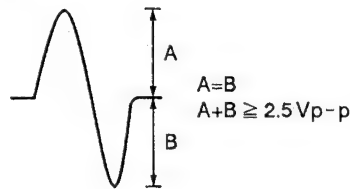

Figure 8
3. While watching the oscilloscope screen, press the PGM (PROGRAM) key and observe the waveform in Figure 8 for a moment. Verify that the amplitude is at least 2.5 Vp-p and that the positive and negative amplitude are about equal. Since the waveform is only output for a moment when the PGM (PROGRAM) key is pressed, press this key over and over until you have checked the waveform.